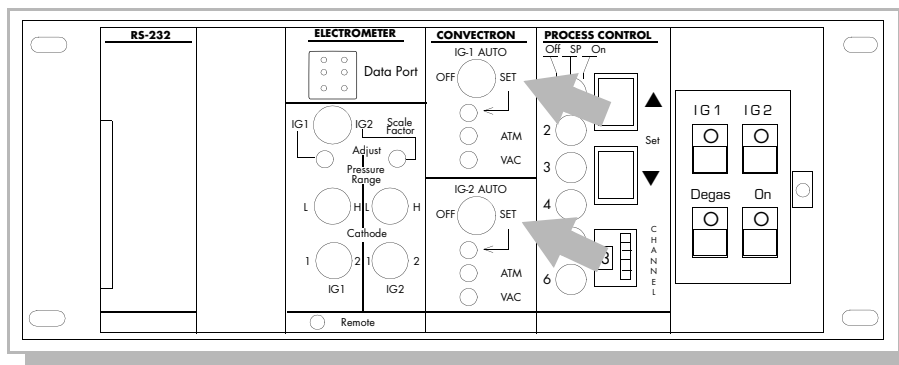

Figure 4-16 Control Unit Front Panel (with Door Open) Showing Ionization Gauge Auto Turn-On/Off Switches.
2. Place the AUTO switch for IG1 in the SET position. See Figure 4-16.